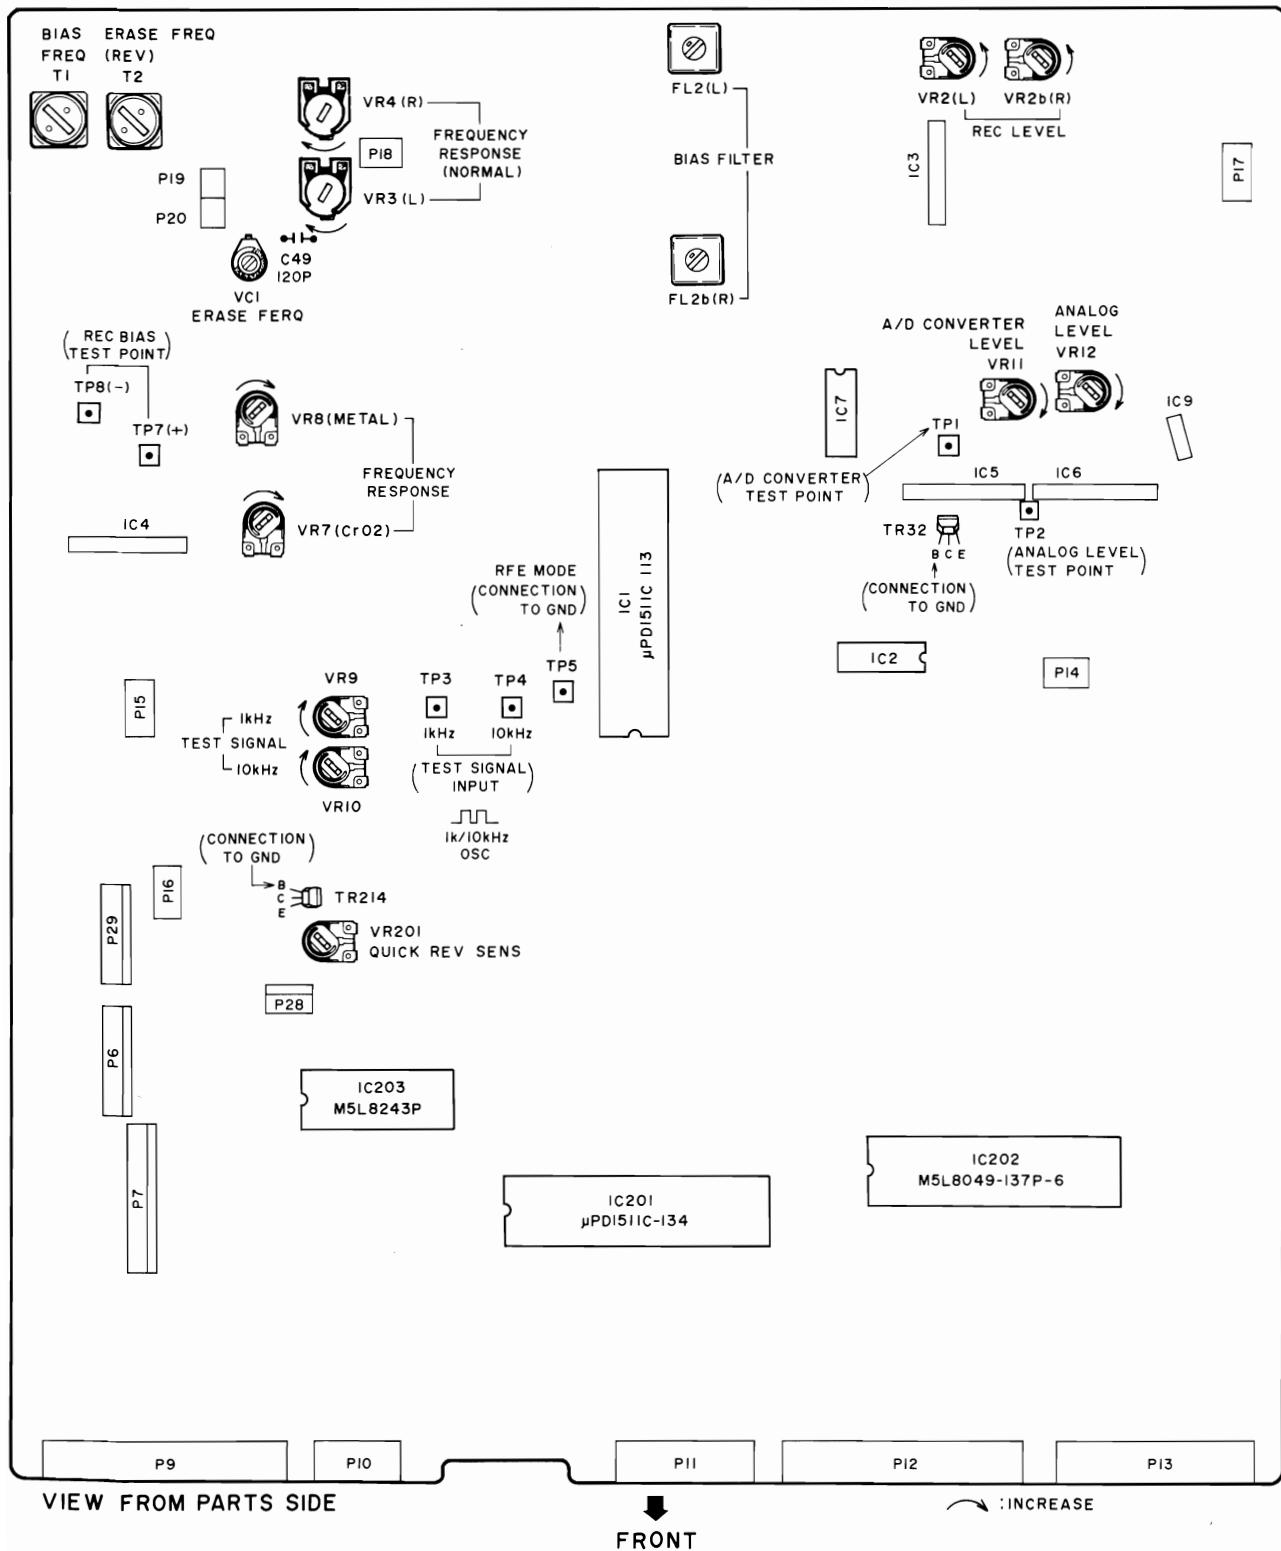

Fig. 7-3 Sys-con & Tuning P.C Board
b. Refer to Fig. 7-3 for tuning adjustment.
c. Source signal will be mute in REF mode, unless J25 pin ② is disconnected.
- Using the tapeless cassette pack, adjust VR201 (on TUNING & SYS-CON PCB, refer to Fig. 7-3) so that the Digital Voltmeter readings $4.30\text{V} \pm 0.05\text{V}$ DC at FWD play mode.